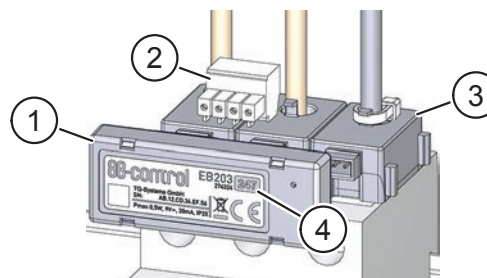

Fig. 5: Attach Sensorbar to current sensors
- ▶ Attach the Sensorbar (item 1 in Fig. 5) to the linked current sensors (item 3 in Fig. 5) and the Molex connector (item 2 in Fig. 5).
- ▶ Please note that all interconnected Sensorbars must have different addresses (item 4 in Fig. 5).